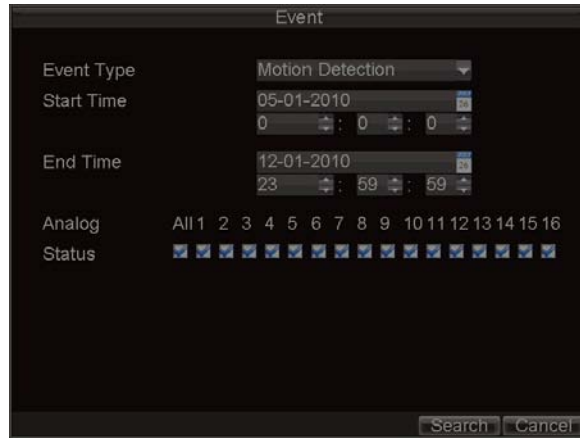

Figure 5. Video Event Search Menu
2. Set the search parameters by selecting event type to search, alarm input/ channel and the start/end time (as shown in Figure 5).